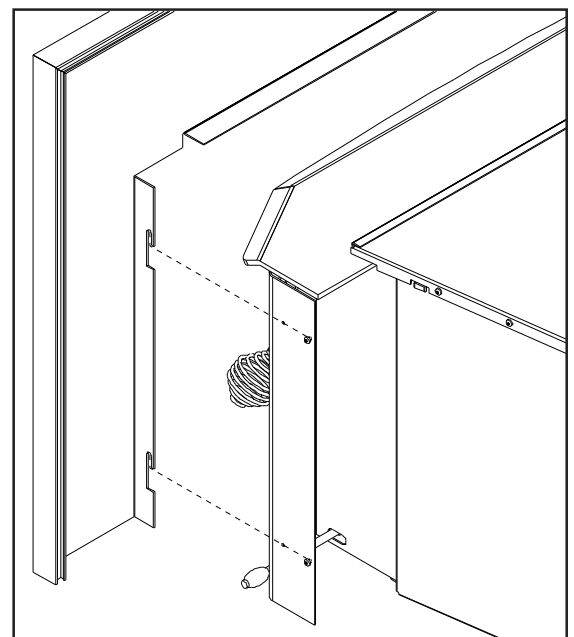

Figure 59: Installation of Panel.
There are two (2) hooks on either side of the inside of the panel. Line up the openings on the hooks with the screws on the outside of either shroud (see Figure 59). Push the surround in and push it down into place.